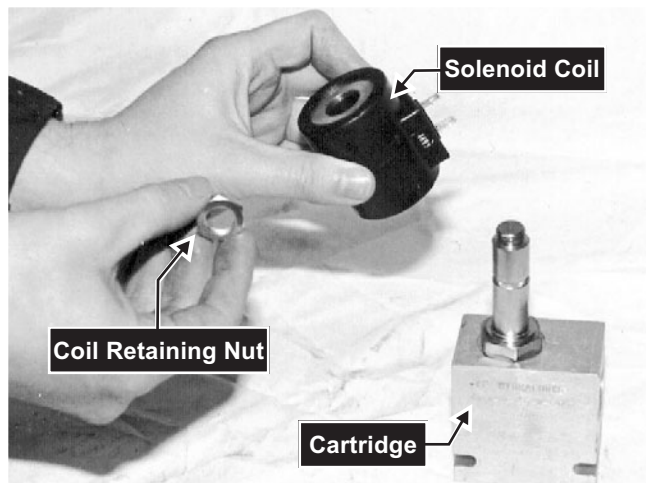

Fig. 8-52 Solenoid valve components.
1. Remove the nut that secures the coil to the cartridge. The coil can then be removed from the cartridge. **Fig. 8-52**